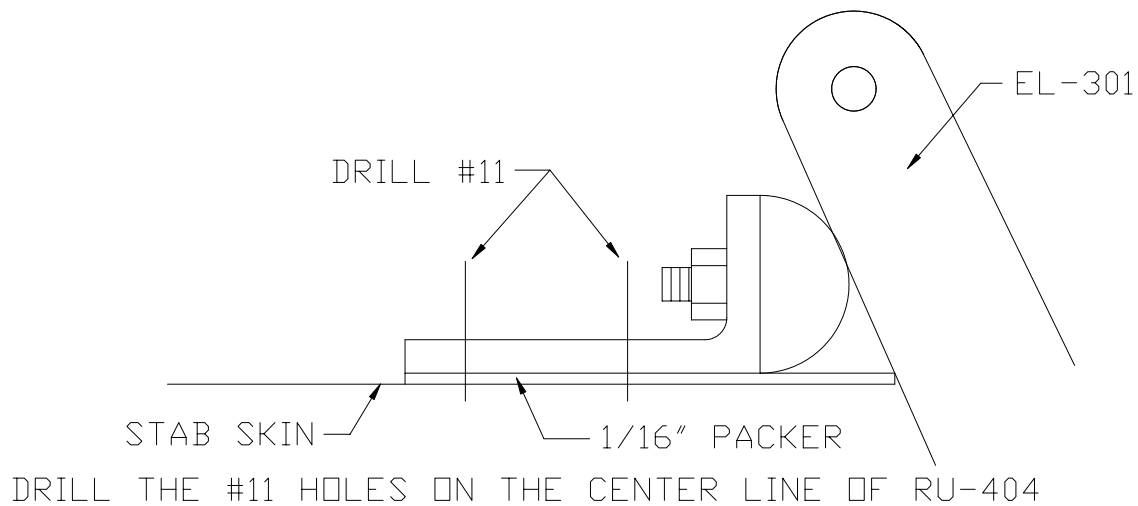

Figure 9
- 37) Slide a Stop up against the Elevator Horn. You will notice that a 1/16" packer strip must be made. At this point you can determine: How big the packer must be and a convenient hole placement for mounting the Stop. Use RV-1619 avex rivets to install. Figure 9.